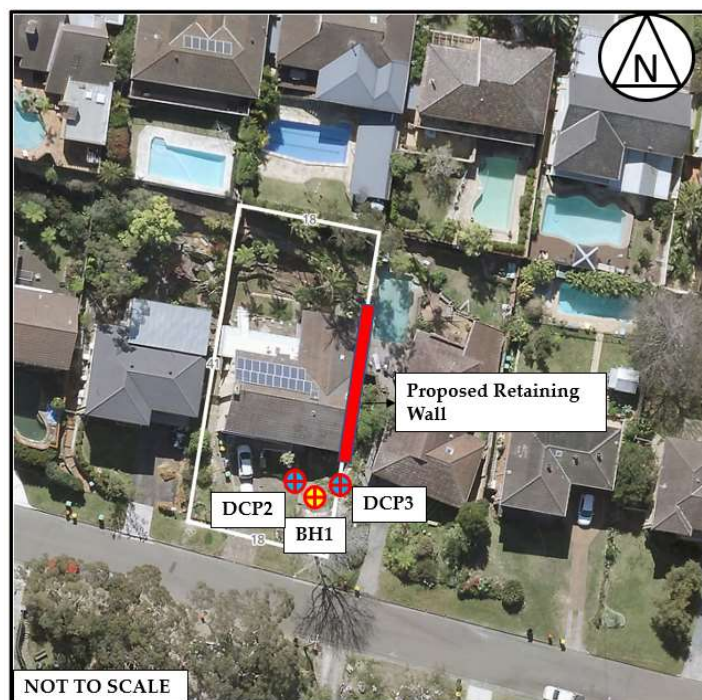

Figure 1: Site plan and Borehole locations
The aim of the investigation was to conduct a geotechnical assessment of the site at 16 Roscommon Crescent, Killarney Heights NSW 2087 for the construction of a retaining wall and alterations and additions works. Due to site accessibility and geology only one borehole (BH-1) could be conducted along with two DCPs as shown in Figure 1. Bedrock was encountered at the location nearby the retaining wall to the right side of the property boundary thus no augering could be carried out. The client intends to construct granny flat within the building existing boundary conditions with no extension. This report is based only on the information provided at the time of this report preparation and may not be valid if changes are made to the site or to the construction method and satisfy the council requirements for Clause E10- Landslip Risk.
The site is situated at 16 Roscommon Crescent, Killarney Heights NSW 2087, on the northern side of Roscommon Crescent. At the time of investigation, the site was occupied by a double storey residential house. The site is situated at the same level with Roscommon Crescent and was sloping at an angle of approximately 5 degrees towards western direction. A small brick retaining wall of about 0.75m in height and 0.23 m in width was present at the right-hand side boundary of the property (eastern side) over sandstone outcrop at about 1.3 from the face of building wall. The site features with the borehole location is shown in Figure 1. Some detached sandstone blocks were seen on the front yard of the house which does not falls in the zone of construction of retaining wall. It should be noted that, the depth of building foundation level is about 2.0 m from base of retaining wall and founded on sandstone. A concrete block of about 2.3m in length and 0.3m in width and 2 m depth was observed below the brick retaining wall. Some Fill was found behind the brick retaining wall, with few trees. One detached sandstone was observed near the backside of the building. Sandstone outcrops were observed in the backyard. No excavation or site filling will occur in in the vicinity of the sandstone outcrops in the backyard. There is a swimming pool in the eastern property toward the end of the lot.
The site was visited by Geotesta's Geotechnical engineer on 17th May 2021. One (1) borehole (BHs) was drilled using hand auger methods. Three (3) Dynamic Cone Penetrometer (DCP) tests were undertaken one next to the borehole and others as shown in Figure 1 to determine the soil consistency/relative density. The DCP test results is shown in Table 1. The soil profiles encountered are described in the attached bore logs. The site subsurface materials comprised topsoil materials to a depth of 0.2m underlain by fill Clayey Sand with wood chips to a depth of 0.4m. The fill was followed by medium dense Sand with Clay to a depth of 0.6m. The medium dense Sand with Clay was underlain by Sandstone bedrock. The site area was approximately 754 m². On the eastern boundary of the site where approximately 1.8 m high retaining wall to be constructed is about 3 m away from the adjacent building/ property.